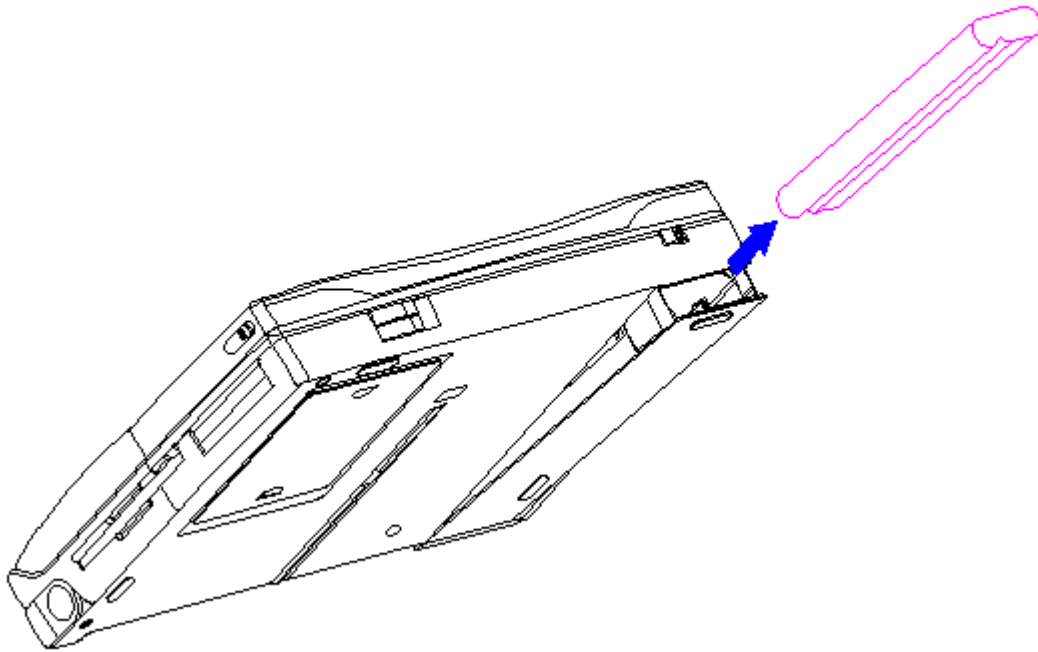

Figure 5-5. Removing the Battery Pack
8. Remove the battery pack (Figure 5-5).